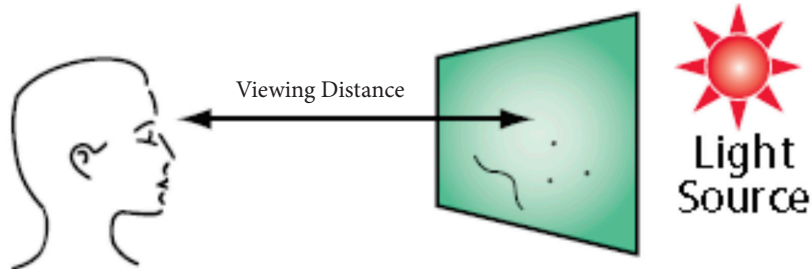

Figure 1: Normal viewing conditions as defined by the ASTM C-172 Standard Specification for Laminated Architectural Glass
- All visual inspections should be made with the naked eye viewing samples in the vertical position at a distance of 10ft (3.0 m) and a viewing angle of 90° to the specimen using daylight (without direct sunlight) or other uniform diffused background lighting (see figure 1) that simulates daylight (minimum 1700 lux measured at the surface of the glass facing the light source).